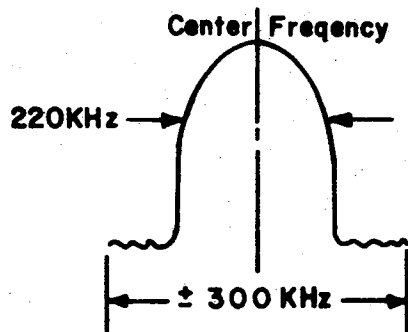

Figure 3
3. Tune the FM Generator, modulated $\pm 300\text{KHz}$ @ approximately 20uv output level to the receiver frequency. Connect a RF detector probe to Pin 1, of CA3012 (Q7) and center the FM IF response on the oscilloscope. The FM IF bandpass characteristics are now being displayed. Adjust the transformer cores, both top and bottom of the RF converter (T4) and the 2nd and 3rd FM IF's (T5 & T6) for maximum gain and symmetry (see Figure 3).